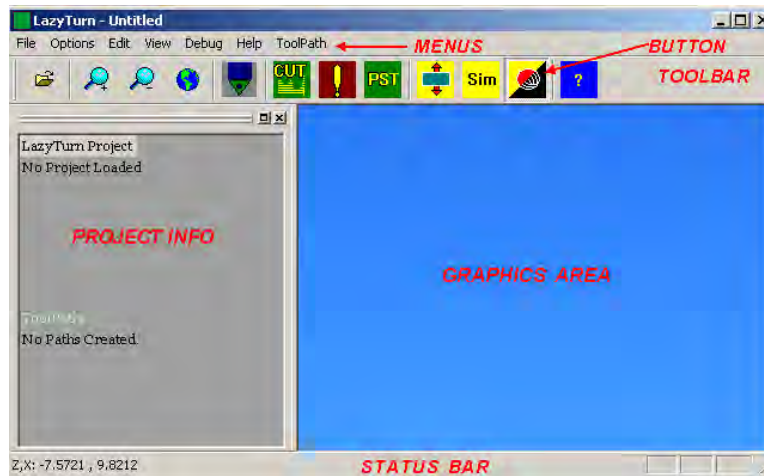

FIGURE 4.1
4.1.1. Figure 4.1 above is the main screen which you will see when LazyTurn is opened. The screen provides different pull down menus as shown in Figure 4.2 below and behaves just like any other screen in a Windows environment.